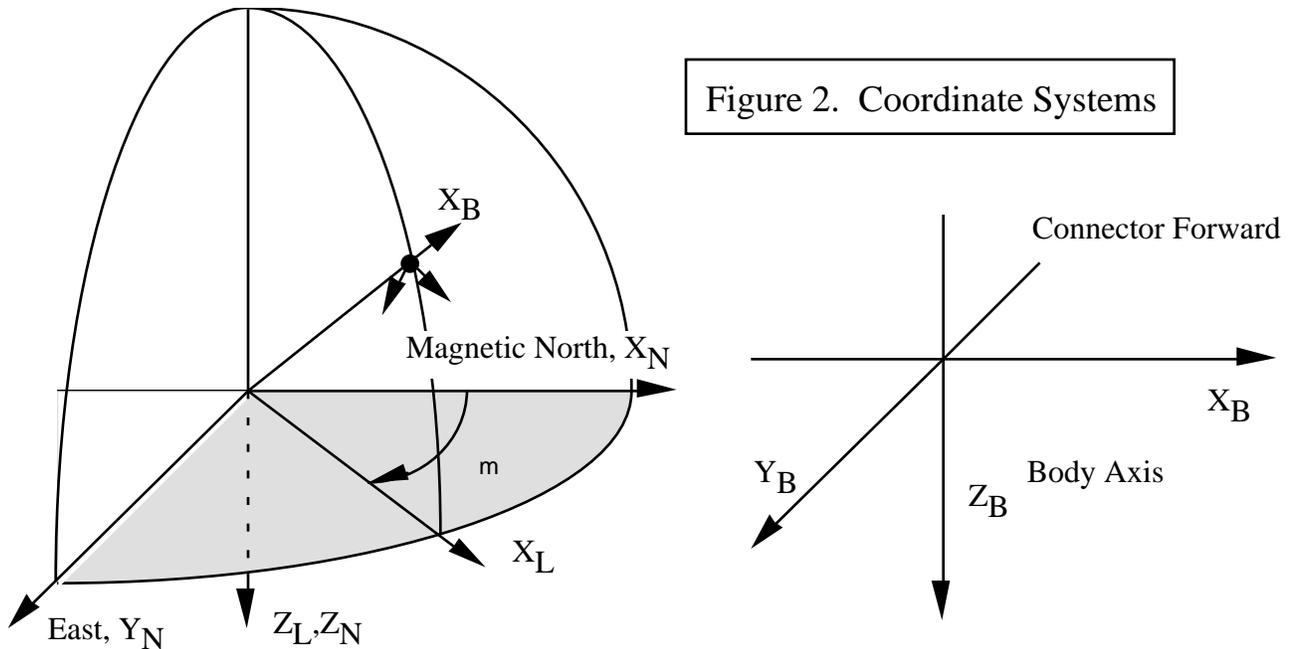

Figure 2. Coordinate Systems
a) Body Axis Coordinates: These coordinates are defined by the physical unit itself and are shown in the unit drawing at the rear of the manual (Appendix F). The positive X_B Axis (See Figure 2) extends through the connector side of the unit. Note that the angular rate outputs are in the body axis coordinate system.
b) Local Level Coordinate System: The local level coordinate system is defined by the projection of the X_B axis onto level. The resultant projection is X_L (See Figure 2). The heading angle is the angle between X_L and North (X_N).